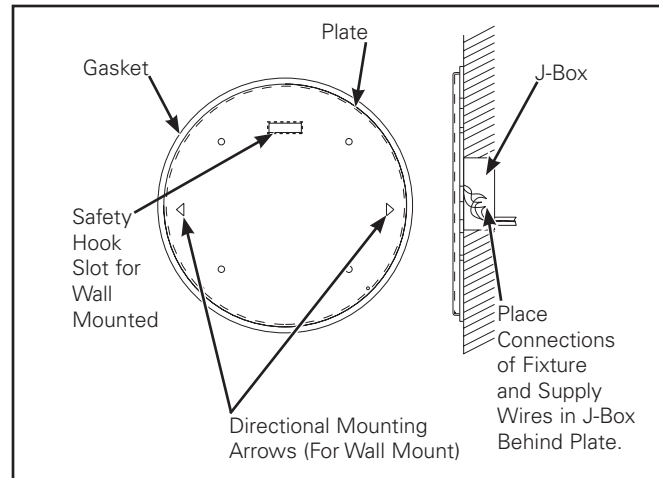

Figure 1. Plate / Gasket Assembly
4. Align the gasket with the mounting holes and the safety hook slot in the plate. Locate on ceiling or wall over junction box. If wall mounted, note the arrows on the plate pointing horizontally and mount plate in this direction. Note the slot located on top portion of plate to accept lens assembly safety hook (Figure 1.). See Step 6. Before actually fastening to the surface, be certain the gasket is aligned evenly around the entire perimeter of the mounting plate to ensure a proper seal.